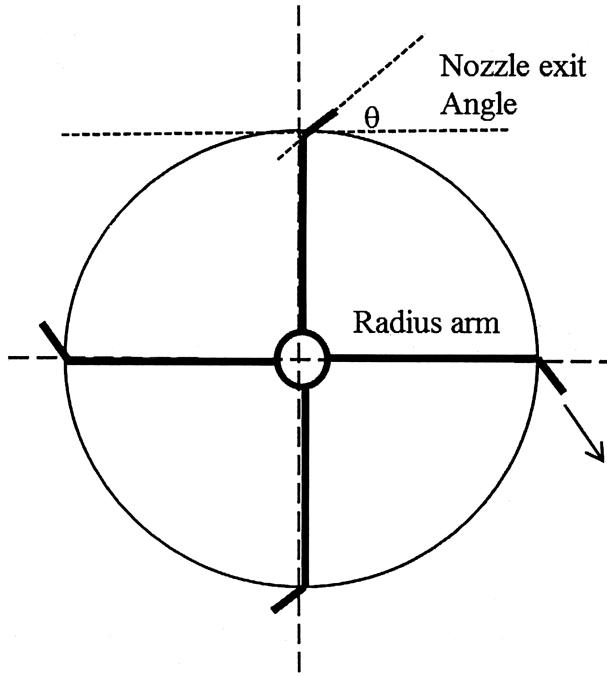

Figure 2
- (b) Figure 2 shows a sprinkler system with 4 identical arms equally spaced. Water enters through the central collar and exits from the nozzles at radius 0.18 m. Each nozzle has a diameter of 0.008 m and water exits at an angle (θ) of 30 degree. The flow rate entering the sprinkler is $0.005 \text{ m}^3/\text{s}$